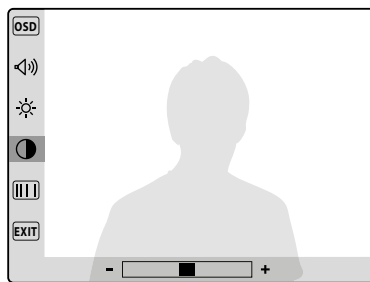

Fig. 3B
- The picture contrast (8 levels **Fig.3B**);